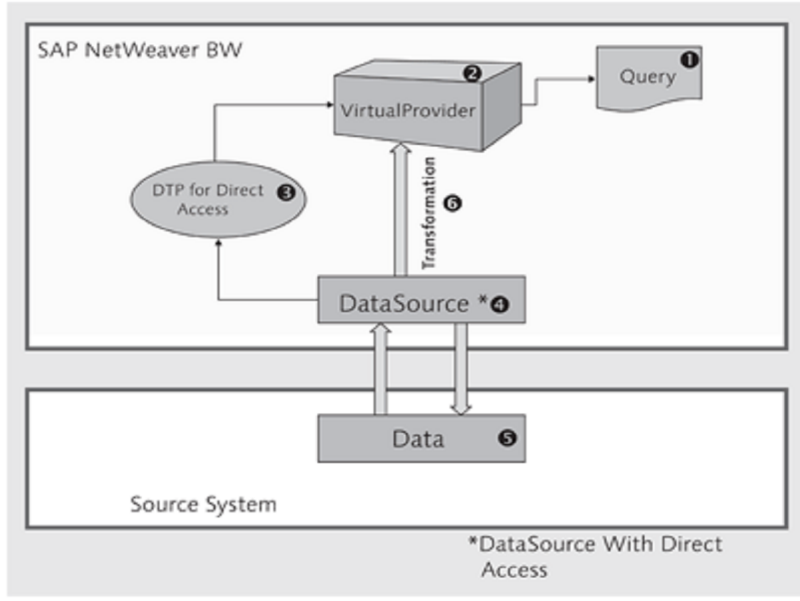

Figure 6.37 Illustration of VirtualProvider
Like the MultiProvider and the InfoSet, this is also a logical definition. However, it's completely different from them because it doesn't source the data from existing data within the data warehouse but sources the data in real time from the source system (see Figure 6.37).
We'll now explain the processes that enable reporting using a VirtualProvider. For instance, if we execute a query (see ❶ of Figure 6.37), the query is based on a VirtualProvider (❷). The data for this query is then sourced in real time from the source system, using the direct access type data source (❸). The data is read from the source system (❹) and passed back to the query using transformation (❺) and DTP for direct access (❻). Every navigation step in the query is a new process for reaching back to the source system for acquiring the relevant data set and relaying it to the query. The entire process of ETL happens in real time, and the data is converted to information and presented in the report. You can include the query variables to filter the data to be read from the source system. When a query is executed, the variable values are passed to the DataSource using inverse transformation.